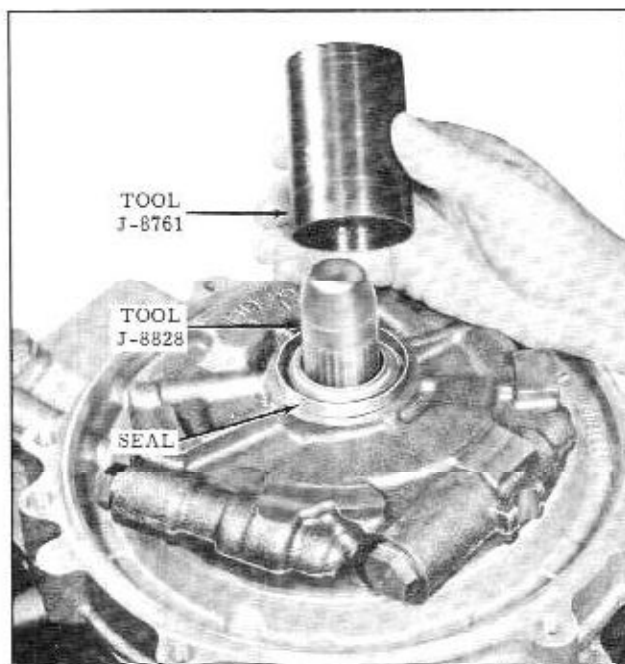

Fig. 3-114 Installing Pump Seal
49. Install new seal by placing the front seal protector, J-8828 over input shaft, install seal and drive into pump with Tool J-8761. (Fig. 3-114)